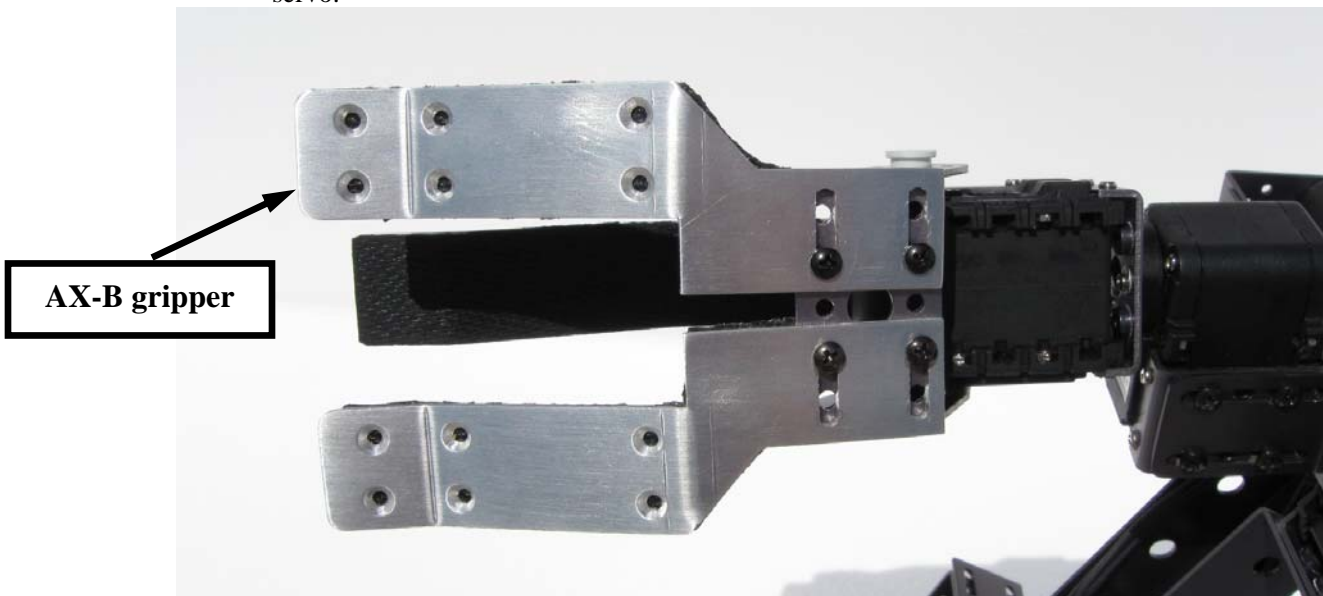

Figure 13
11. Using (2) #4 – ¼” screws, install the AX-B gripper to the arm assembly as shown in figure 13. Be sure to slide the AX-A gripper all the way to the edge of the slot before tightening the #4 screws. Install the AX-12 servo wire of the wrist servo into the left port of the AX-12 gripper servo.